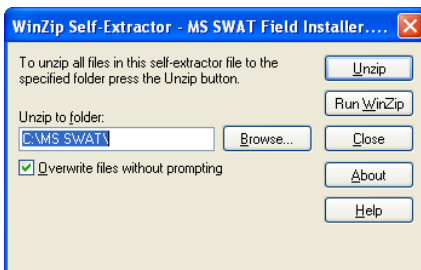

Figure 1
2. When executed it should look like the example Figure 1.